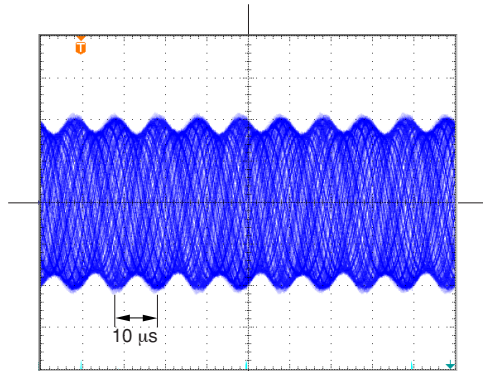

Fig. 6-4
- ⑤ Set the GBAL trimmer to approximately the center position and move the scale to observe the waveform as shown in Fig. 6-4. When doing this, adjust the PHASE trimmer to minimize the ripple on the envelope.